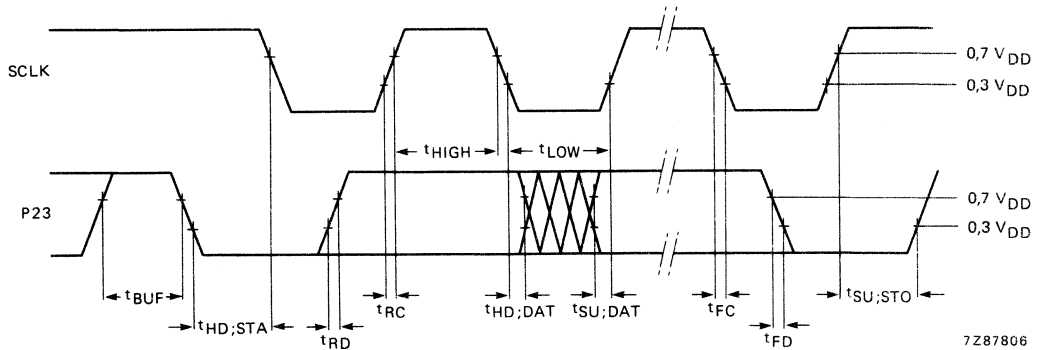

Fig. 42 PCF84CXX timing requirements for the P23 and SCLK input signals.
**Table 8** Input timing shown in figure 42.
- (1)  $T_{amb} = 85\text{ }^{\circ}\text{C}$
- (2)  $T_{amb} = 25\text{ }^{\circ}\text{C}$